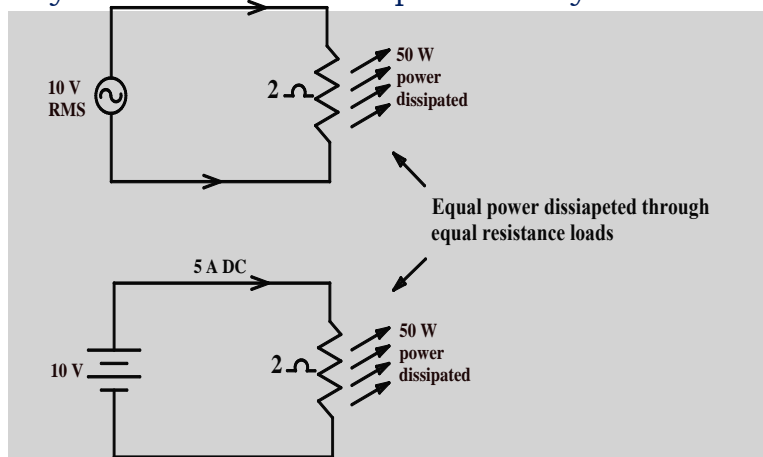

Fig 2.76
**Illustration 1:** Look into the example given in fig. 2.76. The heating effect produced in  $2\ \Omega$  by DC  $10\text{ V}_{\text{RMS}}$  is same as produced by rms  $10\text{ V}$ .